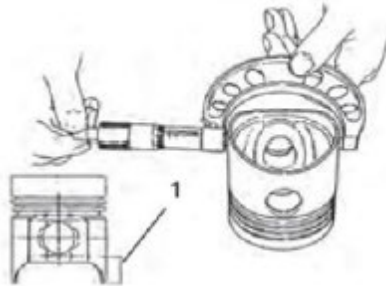

Figure 90.
4. Measure the diameter of the piston skirt at 90° to the wrist pin bore as shown (Figure 90). Measurements must be taken at a specified distance (Figure 90, Item 1) from the bottom of the piston. Record measurements. See *Mechanical Specifications Chart*.